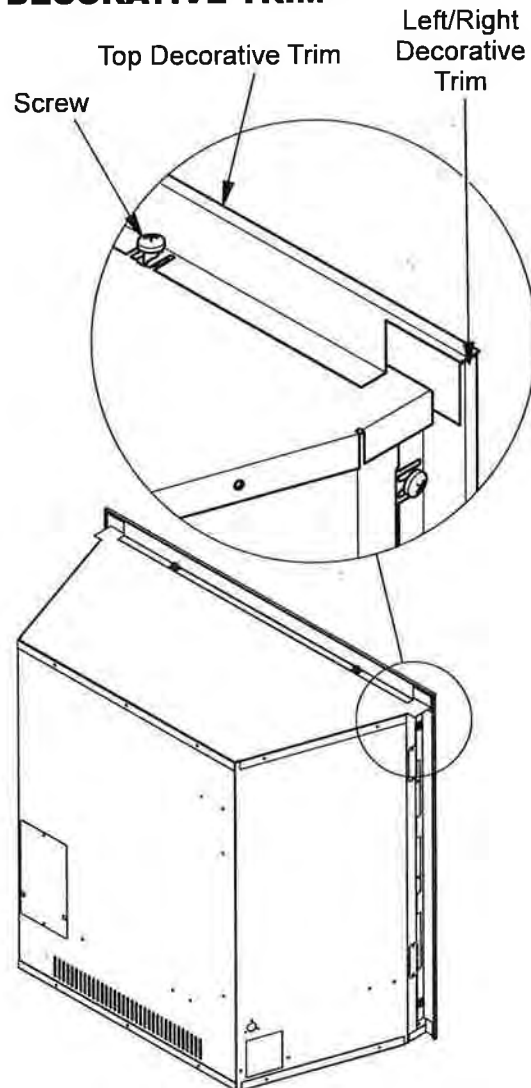

Figure 19 - Installing Decorative Trim
2. Slide slots in 3 trim pieces over screws on the fireplace (see Figure 19).